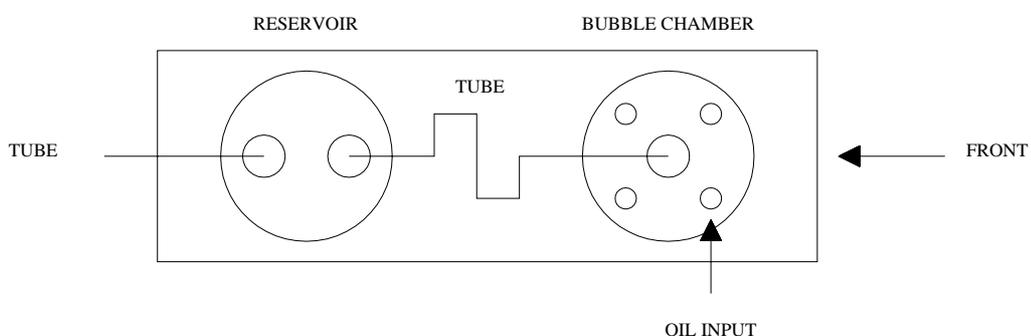

Fig. 5. Bubble chamber and oil reservoir connection.
- Nb!** Be careful not to empty the gas cylinder completely which may cause a slight underpressure that can result in oil to be sucked back into the counter unit. A reservoir chamber is placed in connection with the bubble chamber as an emergency arrangement (see Fig. 5.). Access to the bubble chamber and reservoir is made by removing the plastic frames on the front and back of the disc./anticoincidence module and lifting of the top cover. Oil sucked into the reservoir can be removed by a syringe.